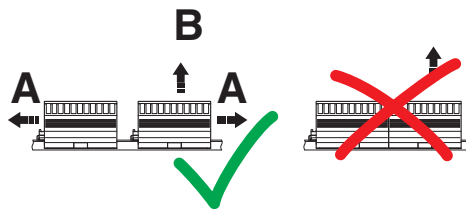

Figure 11-14 Separating and removing the module from neighboring modules
- Separate the connections to the upstream and downstream modules (backplane or bus base module), by pushing the modules apart (Figure 11-14, A)
- Now disengage the backplane (Figure 11-14, B).